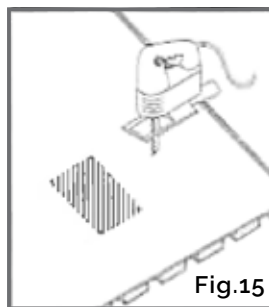

Fig.15
- Using the jigsaw, carefully cut out the wooden slats within the marked area. (fig: 15 )